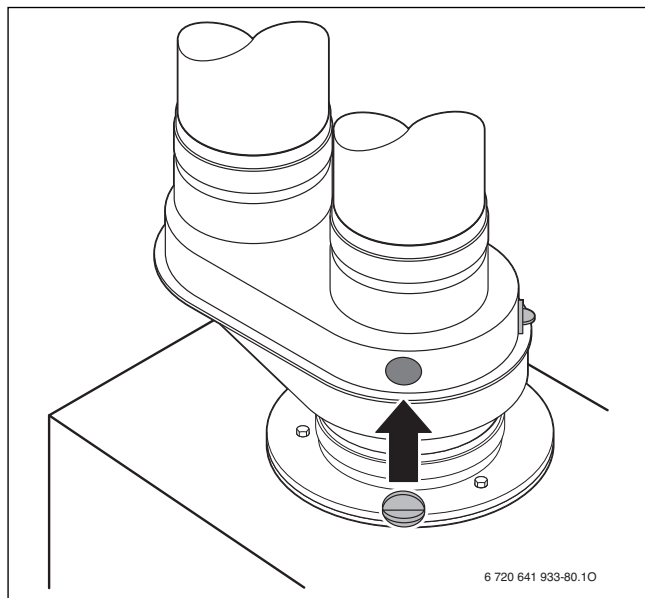

Fig. 60 Close flue gas test ports
- ▶ Remove the flue gas probe and seal the flue gas test port properly (→ Fig. 60, page 47).